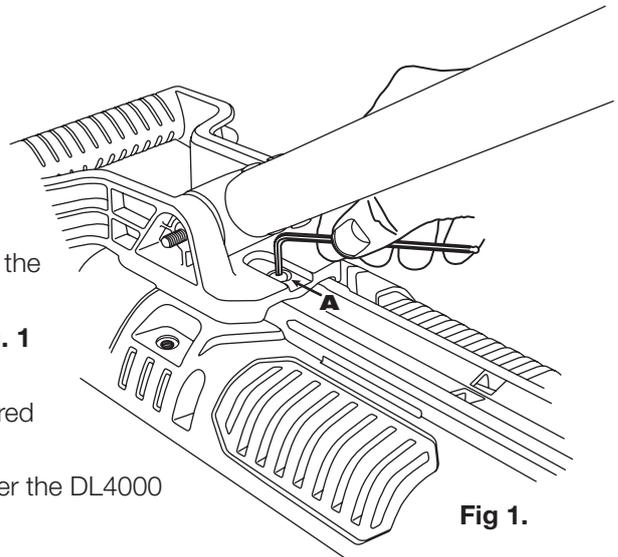

Fig 1.
1. Remove the 4X M6 socket button head screws attaching the both the foot holder and grab handle on the rear of the case. Note these are marked as "A" on the rear case. **Fig. 1**
The rail mast kit features a base, mast and mast bracket. The bracket is secured in position at fixing points "A" on the rear mounting Fig. 1